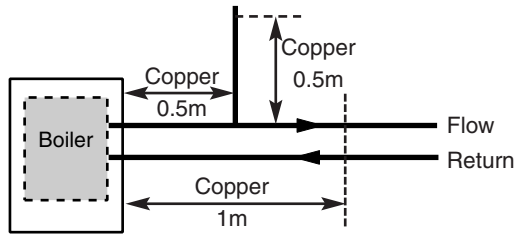

Fig. 2a
3. In systems using non-metallic pipework it is necessary to use copper pipe for the boiler Flow and Return. The copper must extend at least 1 metre from the boiler and include any branches. The copper pipe must not be insulated (Fig. 2a).